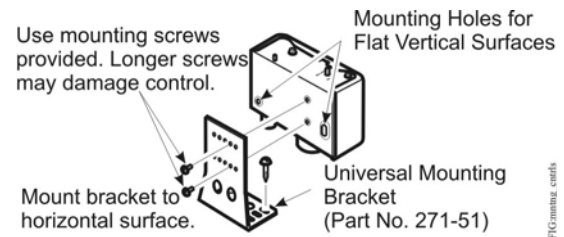

Figure 3: Mounting Dual Pressure Controls with NEMA 1 Enclosures
- Use two screws or bolts through the two outer holes on the back of the control case when mounting the control directly to a flat vertical surface. See Figure 3.
- Use the two inner holes with the Universal Mounting Bracket (and screws supplied) when mounting the control to a flat horizontal surface. See Figure 3.